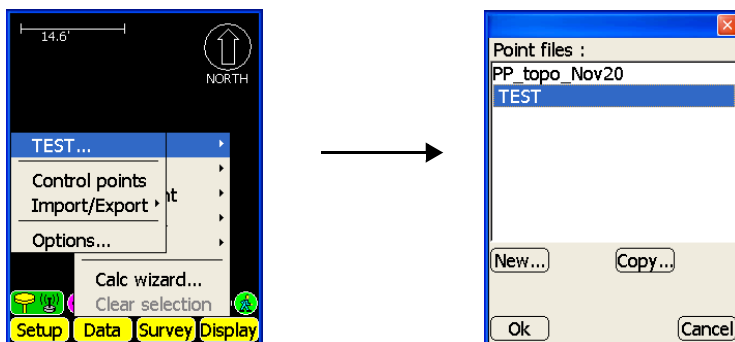

Figure 3-1. Select File to Copy
2. To copy the desired file(s), navigate to the file's dialog box (Figure 3-1 on page 3-2). For example:
3. On the *Point files* dialog box, press **Copy** (Figure 3-1).